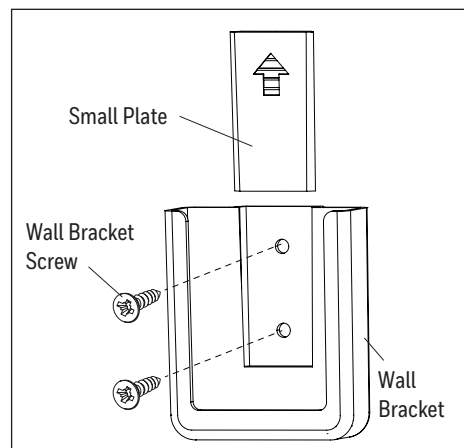

Figure 5.5
5. Remote control comes equipped with a wall bracket. If you wish to install the wall bracket, remove the small plate to expose the screw holes. Insert wall bracket screws through holes and into wall, then cover with the previously removed small plate. The remote can be stored in the wall bracket for easy access (Figure 5.5).